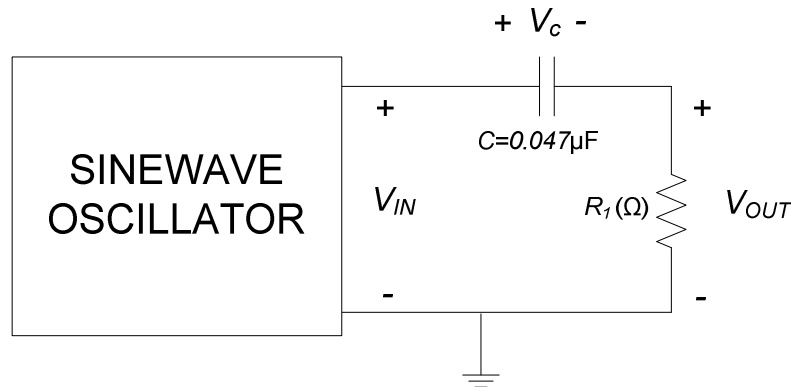

Figure 1. Circuit configuration for step 1.1.
4. (_/0.125) Calculate the “corner” frequency of the high-pass filter given in Figure 1.
6. (_/0.5) For the purposes of this lab, all phasor lengths will not represent the peak values but the RMS values. Impedances will then remain unchanged. Draw the phasor diagram of the circuit in Figure 1 by performing the following steps:
- (a) Calculate the impedance values of the components in Figure 1 at the “corner” frequency.
- 1.1 (✓/0.5) Connect the circuit shown in Figure 1. From the resistor drawer choose a resistor that is the closest match to your calculated value of R_1 . Record this value.